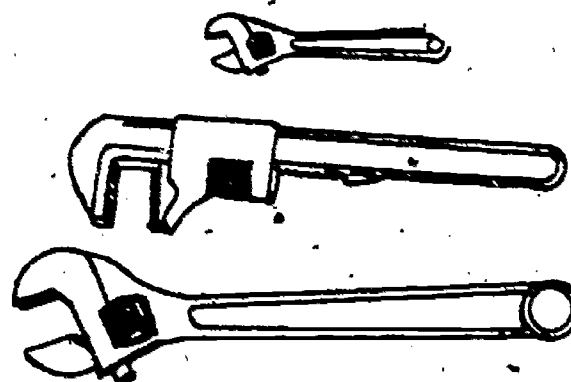

Figure 21. Adjustable Jaw Wrenches
**Adjustable Jaw.** The adjustable jaw wrench is similar to the open-end wrench, except that one jaw is moveable, enabling a single wrench to be used on several sizes of nuts or bolts (see figure 21). The size of the wrench is determined by the total length. Always remember to close the jaws tightly against the nut or bolt before starting work. If this is not done, the nut or bolt will be damaged by the jaws.